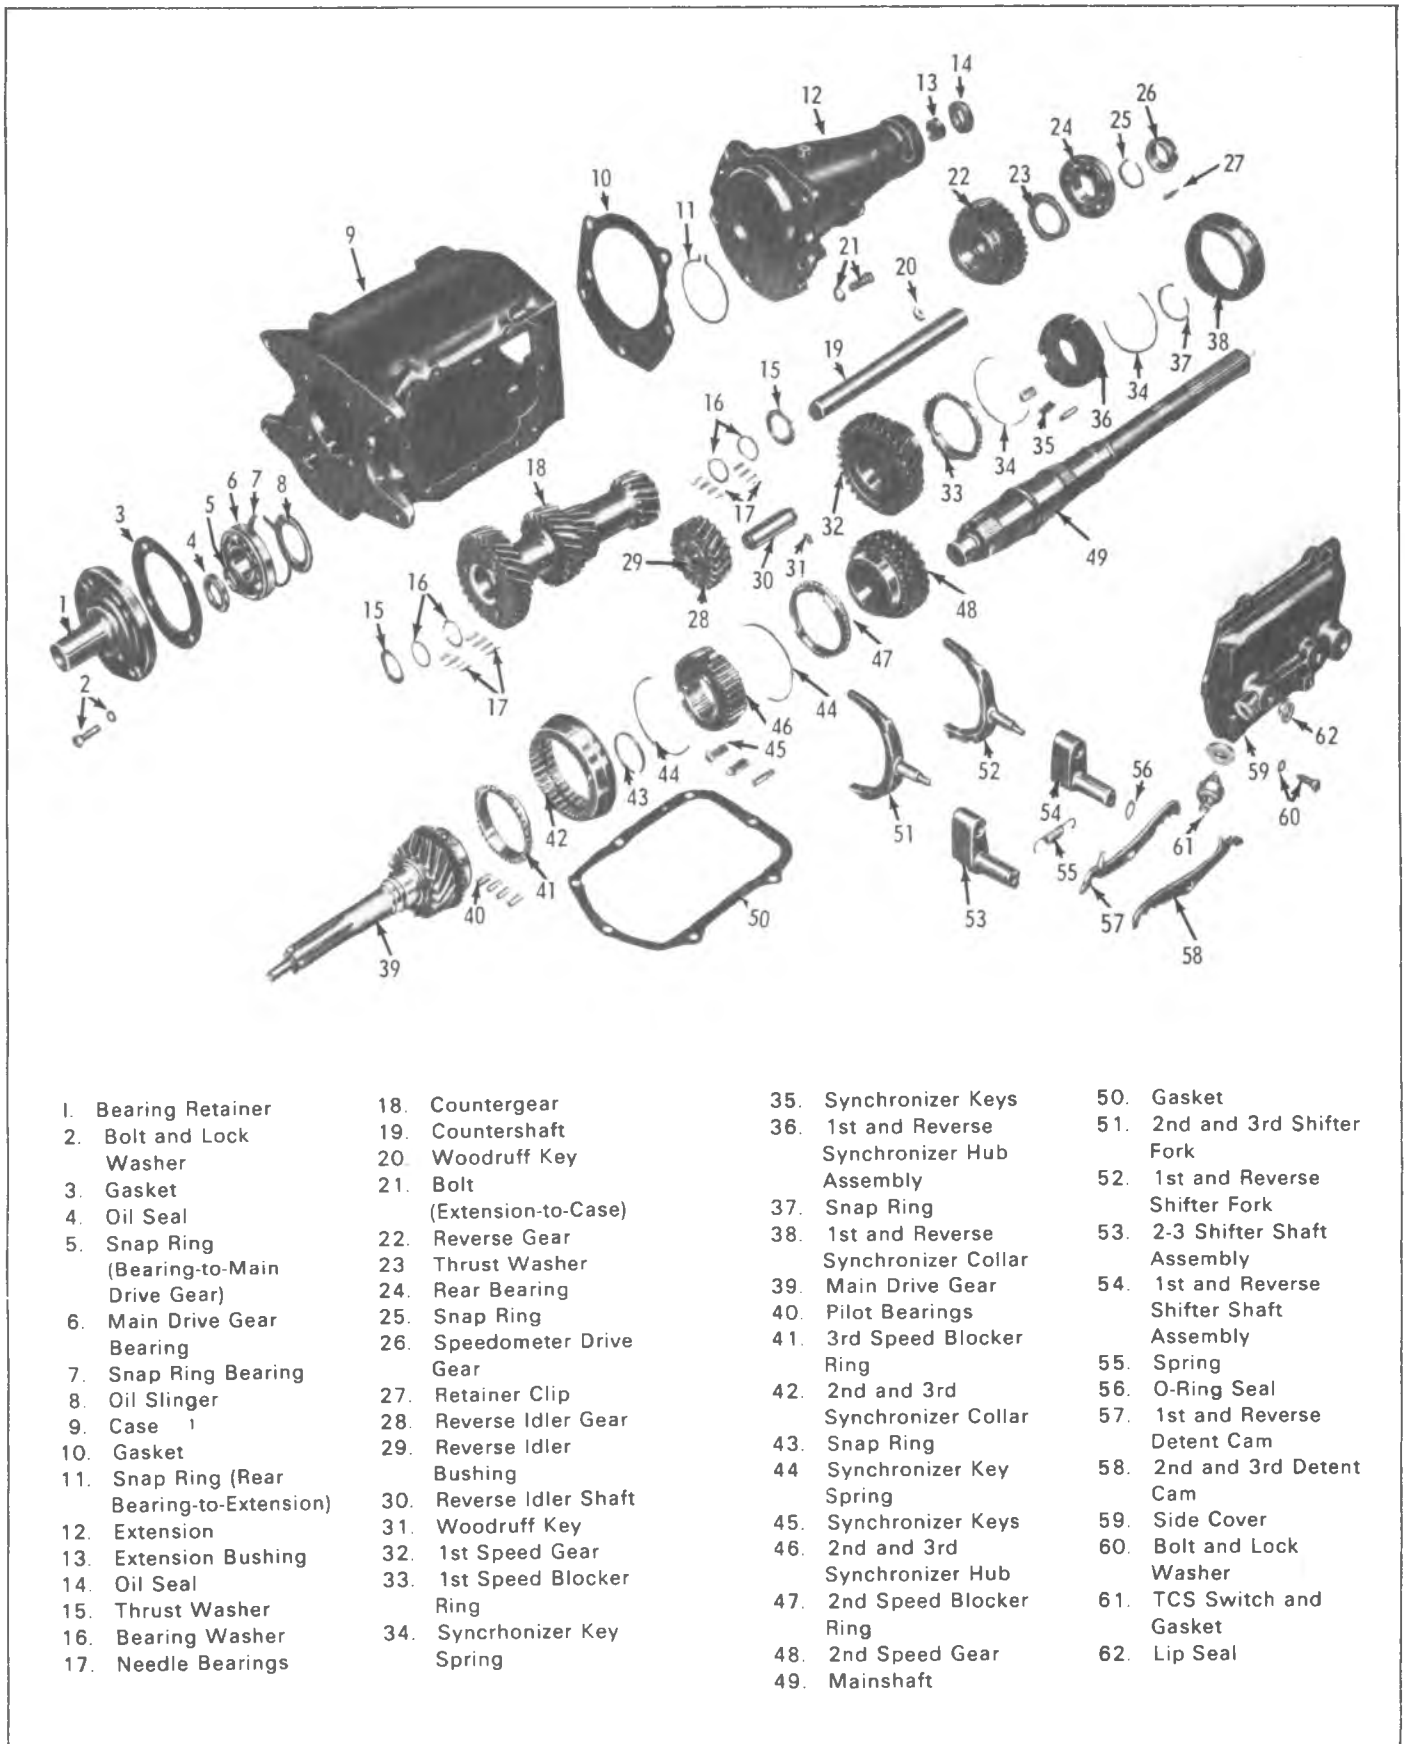

Fig. 6G--Transmission Exploded View
ASSEMBLY OF TRANSMISSION (Fig. 6G)
1. Load a double row of roller bearings (29) and the bearing thrust washers in the countergear (Fig. 6G). Use heavy grease to hold them in place.